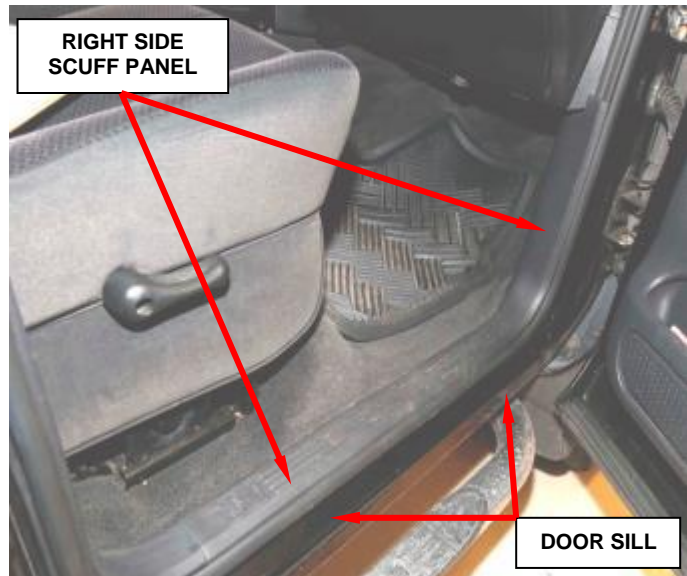

Figure 2 – Right Side Scuff Panel
- a. Using a trim stick, disengage the retaining tabs of the cowl trim panel from the retainer clips in the door sill (Figure 2).